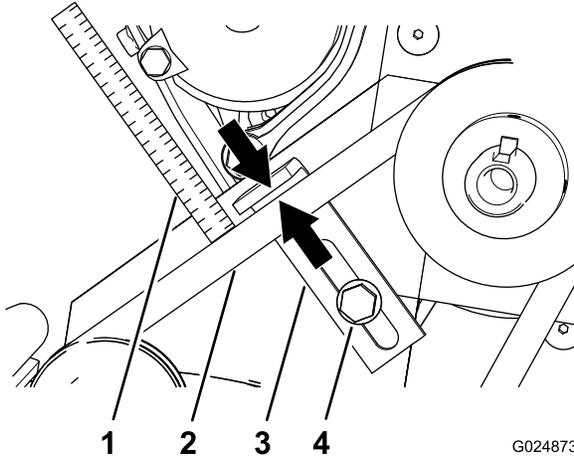

Figure 26
Note: If the air gap is larger or smaller than 6 mm (1/4 inch), adjust the belt guide (Figure 26); refer to Adjusting the Belt Guide (page 20).
2. Measure the air gap between the belt and the belt guide (Figure 26).
1. Loosen the hex-flange head bolt that secures the belt guide to the engine plate (Figure 26).
2. While keeping the top of the belt guide parallel to the belt, move the belt guide toward or away from the belt until the air gap is correct (Figure 26).
3. Tighten the hex-flange head bolt that secures the belt guide to the engine plate (Figure 26).